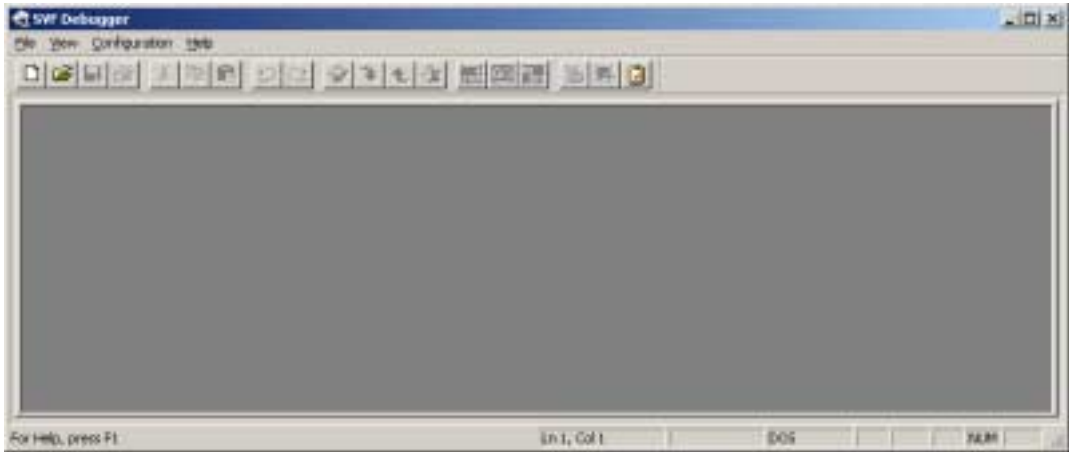

Figure 3-3. SVF Debugger Main Window
2. Click **Debug**. The SFV Debugger Software main window appears (Figure 3-3).
The SFV Debugger main window appears (Figure 3-3).